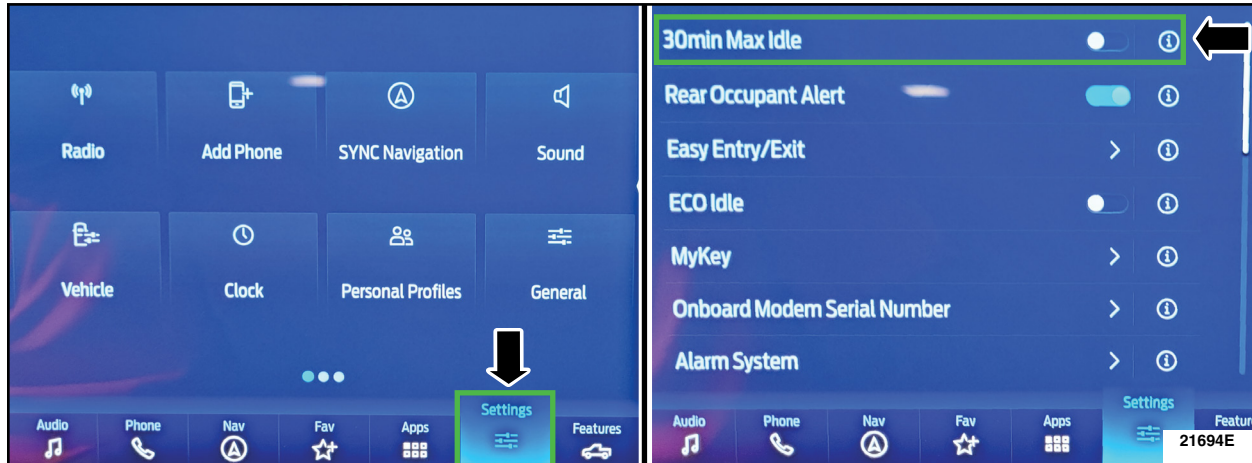

FIGURE 1
1. From the vehicle settings menu disable the 30 minute max idle option. From the center display press the vehicle settings button and turn off the 30 minute max idle setting. See Figure 1.